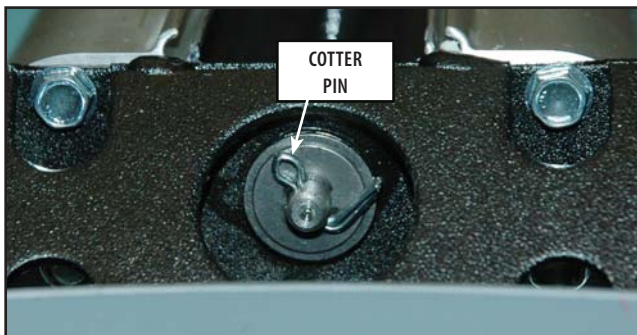

FIGURE 6.16
Cotter Pins are not supplied with the replacement Acme Rod. Carefully remove the Cotter Pin and retain for installation of the Ball Screw. **Refer to Figure 6.16.**
11. Remove the Cotter Pin securing the Ball Screw to the front end of the unit. **Refer to Figure 6.16.**